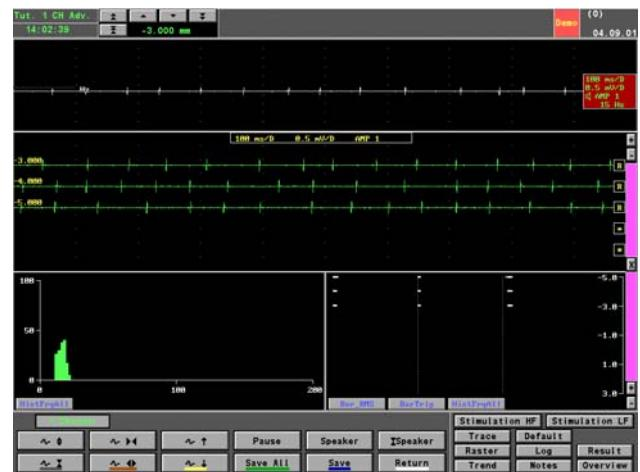

Figure 76 The Distance to the Target is -3.000mm
- Alter the distance to the target from -4.000 to -3.000mm. Please see Figure 76 below: